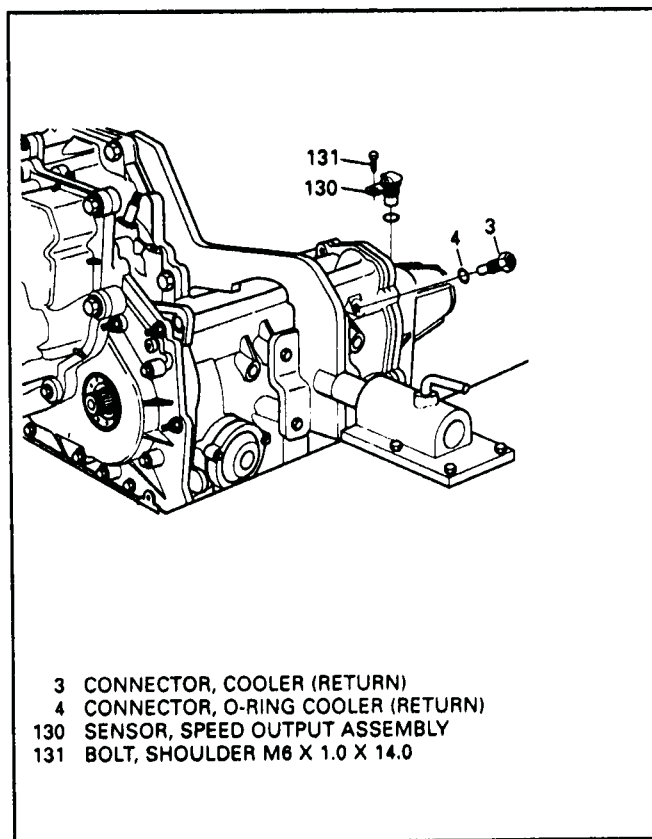

Figure 124
1. Install vehicle speed sensor and new seal into case extension, as shown in Figure 124.
3. Install return cooler line fitting in transaxle case, as shown in Figures 124 and 125.